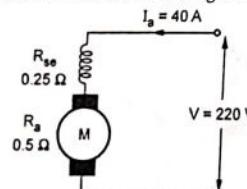

Fig. 8.5.9
**Sol.** : The motor is shown in the Fig. 8.5.9.